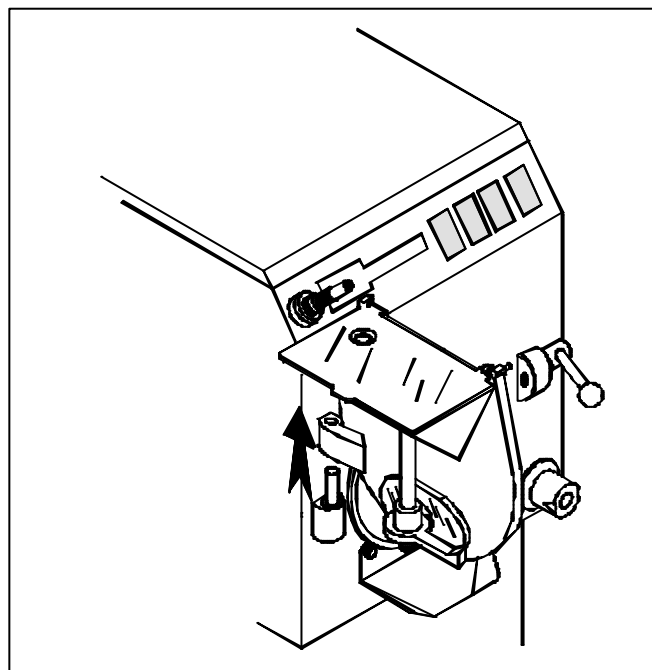

Figure 14
- Lift the door and remove it (ref. Fig. 14).